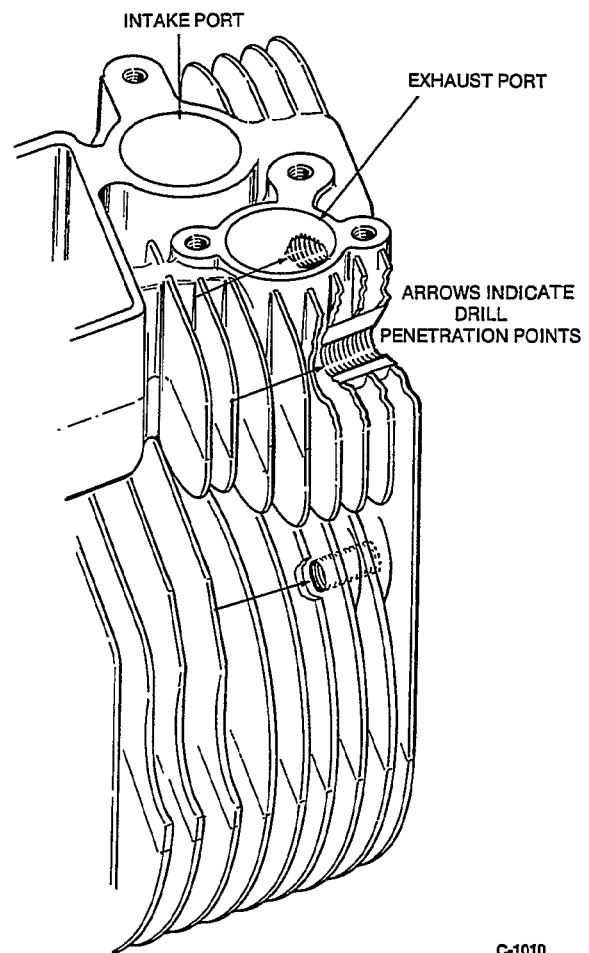

FIGURE 83. DRILLING PROCEDURE
7. Insert the small size bushing into the fixture over the hole(s) with damaged threads and lock it in place. With the brushing as a guide, drill out the damaged threads using a 27/64 size drill bit. If drilling out the holes on the SIDE of the block, drill through to the fourth fin (see Figure 83). If drilling out the holes at the TOP of the block, it will be necessary to remove the corresponding intake or exhaust manifold. The drill bit should penetrate completely into the port but should not contact the opposite wall of the port (see Figure 83).